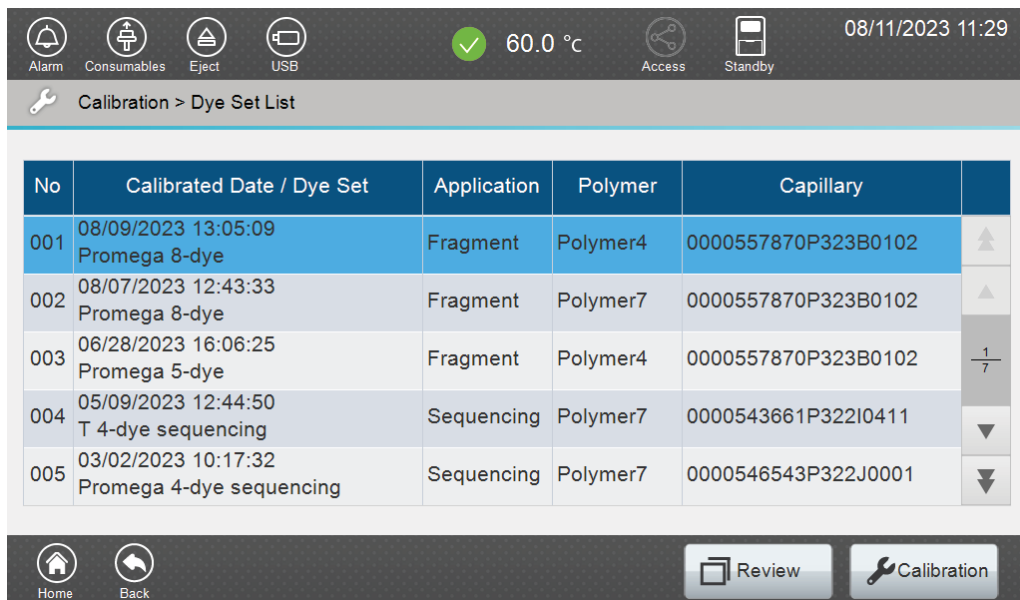
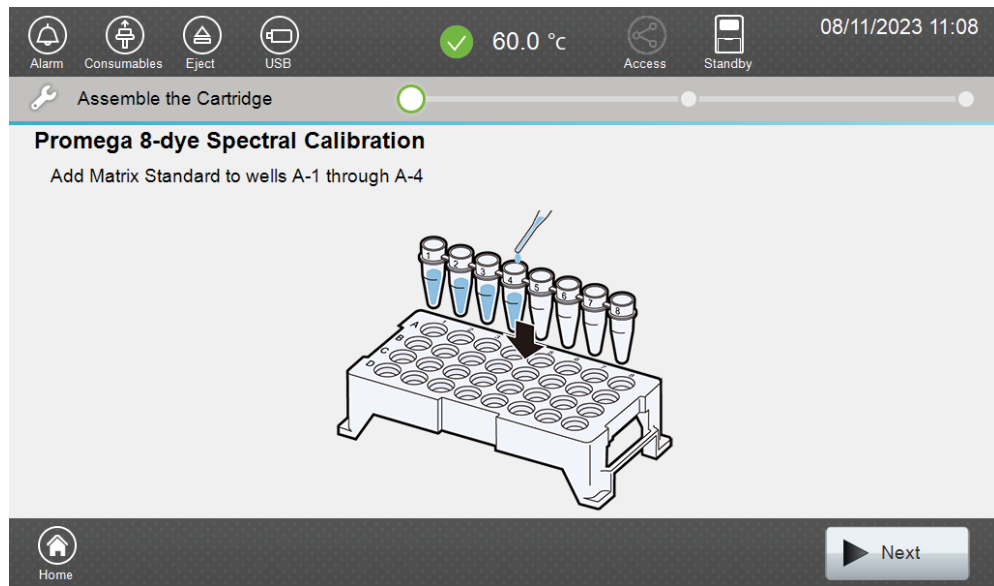

Figure 6. 'Dye Set List' screen.
Figure 7. 'Assemble the Cartridge' screen.
- Use the scroll arrows on the right-hand side of the 'Dye Set List' screen (Figure 6) to find the correct Dye Set/Application Type/Polymer combination from the displayed list. To perform a spectral calibration using the VersaPlex® 8C Matrix Standard with Polymer4, select **Promega 8-dye** with "Fragment" and "Polymer4" as application and polymer types, respectively, then select **Calibration**. The 'Assemble the Cartridge' screen will open (Figure 7).
- Select **Next** on the 'Assemble the Cartridge' screen (Figure 7). A message window will open indicating that the autosampler is moving and telling the user to not open the door. In addition, the status indicator flashes green while the autosampler is moving. After autosampler movement is complete, the message window closes and the status indicator returns to a steady green.